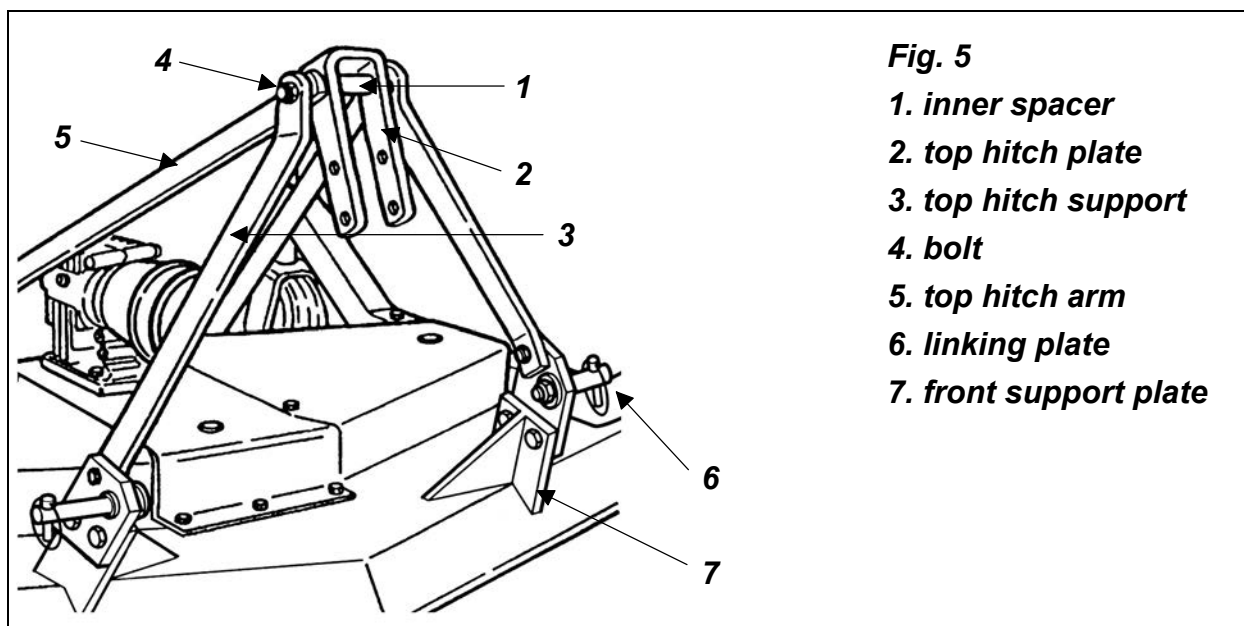

Fig. 5
7. Bolt up the top hitch arms (see #5, fig. 5 & 6) to the **outside** of the rear support plates on the rear of the mower (see #8, fig. 6).
8. Bolt up the top hitch supports (see #3, fig. 5 & 6) to the **inside** of the linking plates (see #6, fig. 5) that are already bolted to the **outside** of the front support plates (see #7, fig. 5).
9. Bolt up the top hitch plate (see #2, fig. 5 & 6) with the M16x140 bolt. It should be bolted as follows: bolt, top hitch support, top hitch arm, top hitch plate, spacer, top hitch plate, top hitch arm, top hitch support, locknut. **Tighten the locknut down securely, the top hitch plate should be able to swivel 360°.**